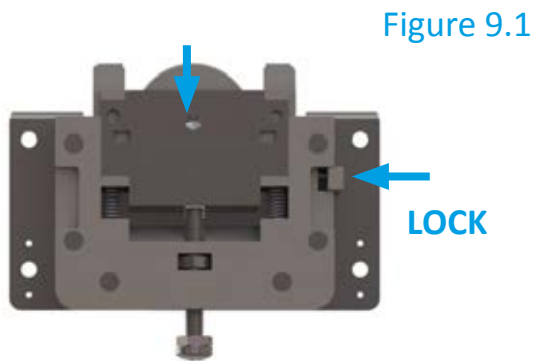

Figure 9.1
8. Lock the upper roller by pushing down the wheel and sliding the clip into place as guided in **Figure 9.1**.